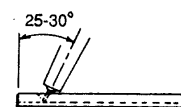

Figure 2.3
4. Lower the helmet. Strike an arc and adjust the length of wire stickout to provide the desired penetration. Lengthening wire stickout will decrease penetration, whereas decreasing wire stickout will increase the amount of penetration. (See Figure 2.3.)